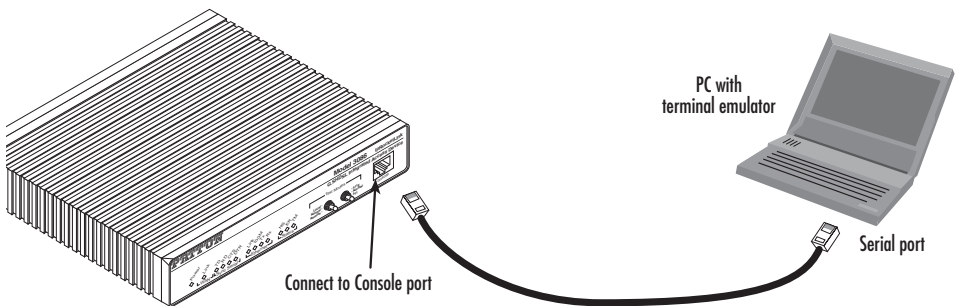

Figure 1. Connecting ipRocketLink to the PC's serial port
1. Using the included combination RS232/Ethernet cable and DB9-RJ45 adapter, connect a PC's serial port to the ipRocketLink's *Console* port (see figure 1).